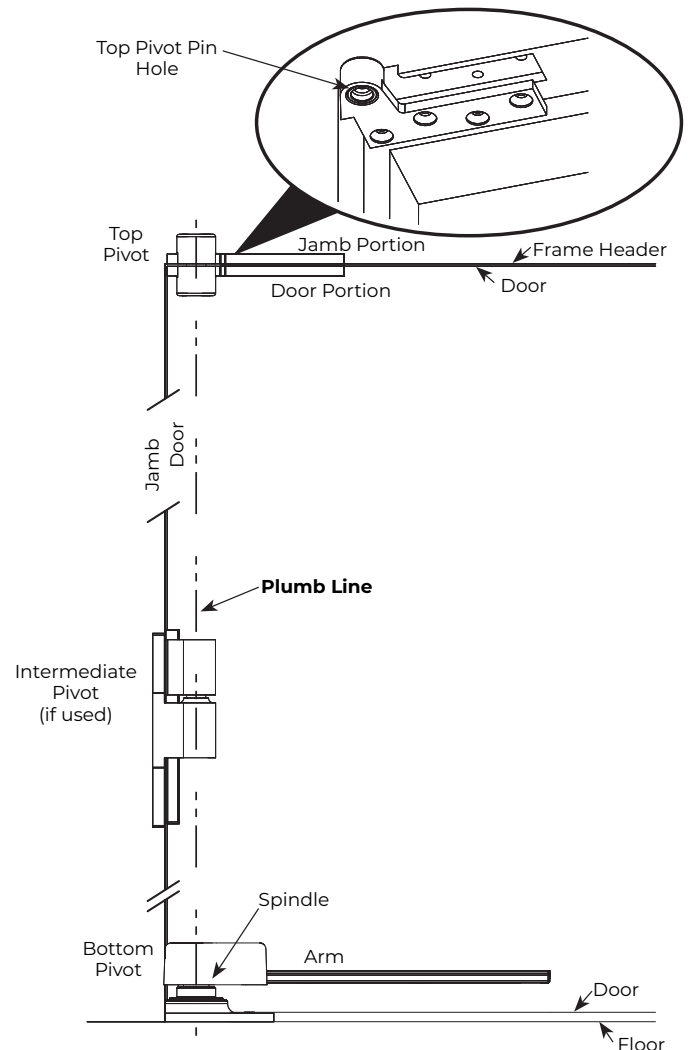

Figure 3 Right Hand Shown
4. Install jamb portion of top pivot in frame header using four (4) 1/4-20 x 5/8" FHMS or #14 x 1-1/2" FHWS screws provided. (Figure 3)
5. Using Norton Rixson alignment tool 2604, secure plumb line to jamb portion top pivot pin. (Figure 3)
6. Using plumb line, locate bottom pivot floor portion spindle centerline. With bottom pivot floor portion as a template, mark location of mounting holes onto floor. (Figure 3)